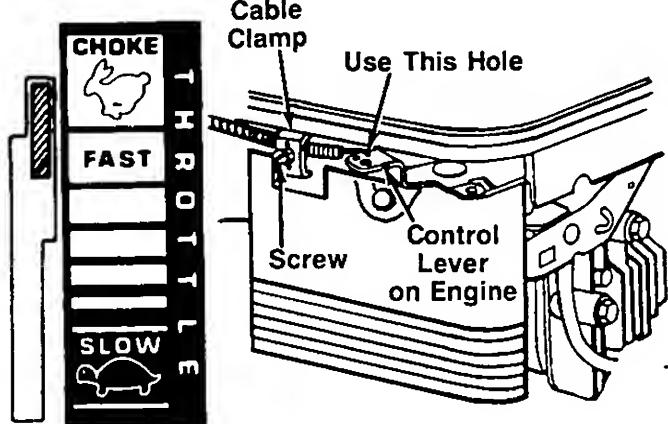

FIGURE 5.
1. Push the throttle control lever on the handle all the way forward to CHOKE position. See figure 5.
2. The throttle control cable is attached to the upper handle. Route the throttle control cable under the lower handle. Route the cable to the outside of the handle wheel bracket assembly and height adjustment lever, then in back of the engine. Hook the "Z" end of the throttle control cable into the inside hole in the control lever on the engine shown in figure 5.
3. Using a screwdriver, remove the screw and cable clamp shown in figure 5.